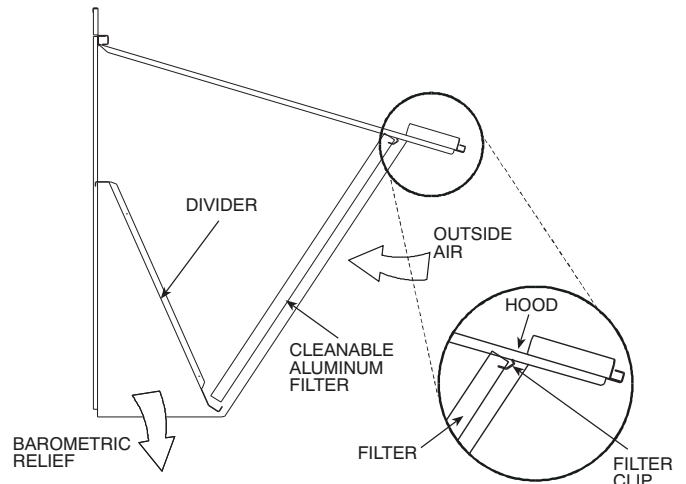

Fig. 18 — Economizer Filter Installation
6. Open the filter clips which are located underneath the hood top. Insert the aluminum filter into the bottom filter rack (hood divider). Push the filter into position past the open filter clips. Close the filter clips to lock the filter into place. See Fig. 18.